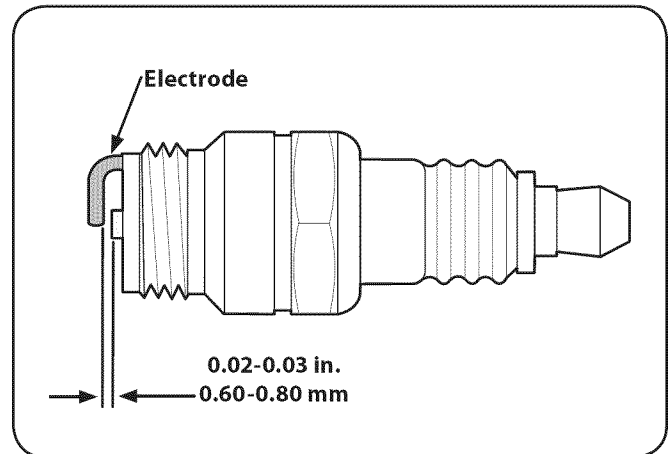

Figure 6-5
5. Measure the plug gap with a feeler gauge. Correct as necessary by bending side electrode. See Fig. 6-5. The gap should be set to 0.030 in. (0.76mm).